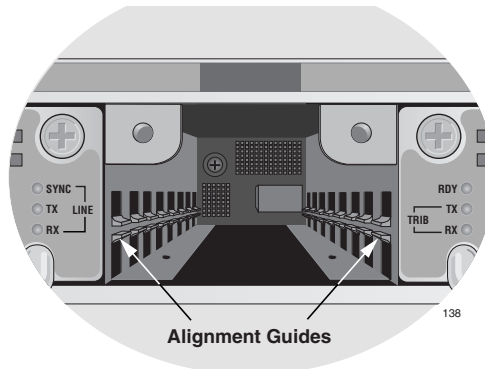

Figure 23. Location of Alignment Guides
5. Locate the left and right alignment guides in the slot, as shown in Figure 23.